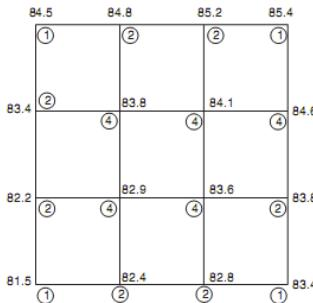

Fig. 18.14
■ Example 18.8: A 60 m × 60 m plot is to be excavated to a formation level of 80.0 m. The present levels at 20 m × 20 m grid are as shown in Fig. 18.14. Calculate the volume of earth work.